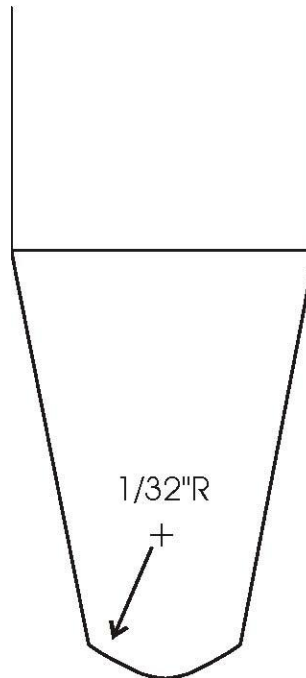

Figure 6: PROBE TIP GEOMETRY
2. Probe should be dressed with fine sandpaper to provide a 1/32" tip radius. Dress probe frequently (after every gage installation) or whenever severe sparking has occurred. (Figure 6)